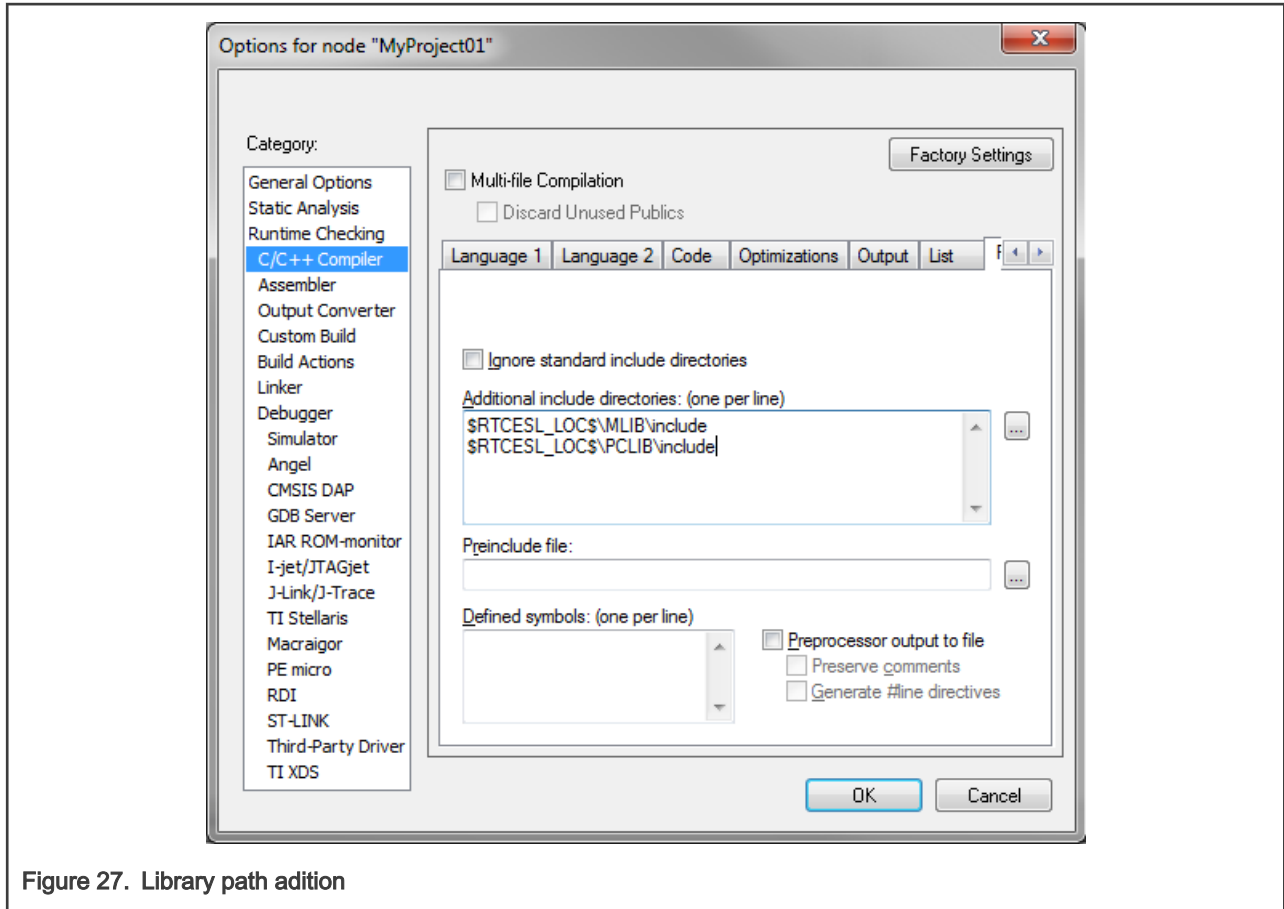

Figure 27. Library path addition
- Click OK in the main dialog. See Figure 27.